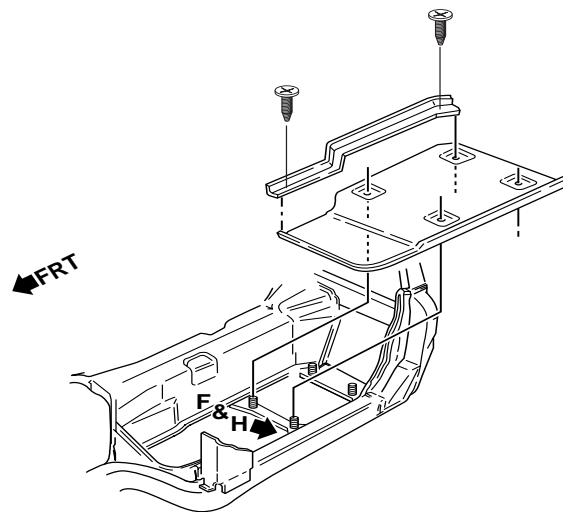
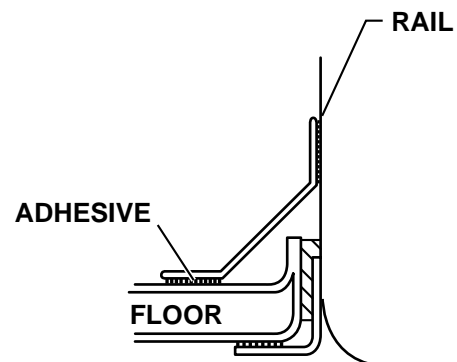

Fig. 3.47 — Trim Screws May Be Necessary to Secure Panel While Adhesive Cures
Fig. 3.48 — Cross Section of Floor and Rail Brace
- 6 Apply adhesive to the floor panel support bracket, and install to attach floor panel to tunnel as in Fig. 3.47. Apply adhesive to the floor panel brace and install as shown in Fig. 3.48. Screw the ends of the brace securely to the floor panel, apply pressure evenly for uniform adhesive 'wet-out' (Fig. 3.47). Apply adhesive to wiring harness clips (3), and install at the etched indicators on the service panel by pressing firmly into place.